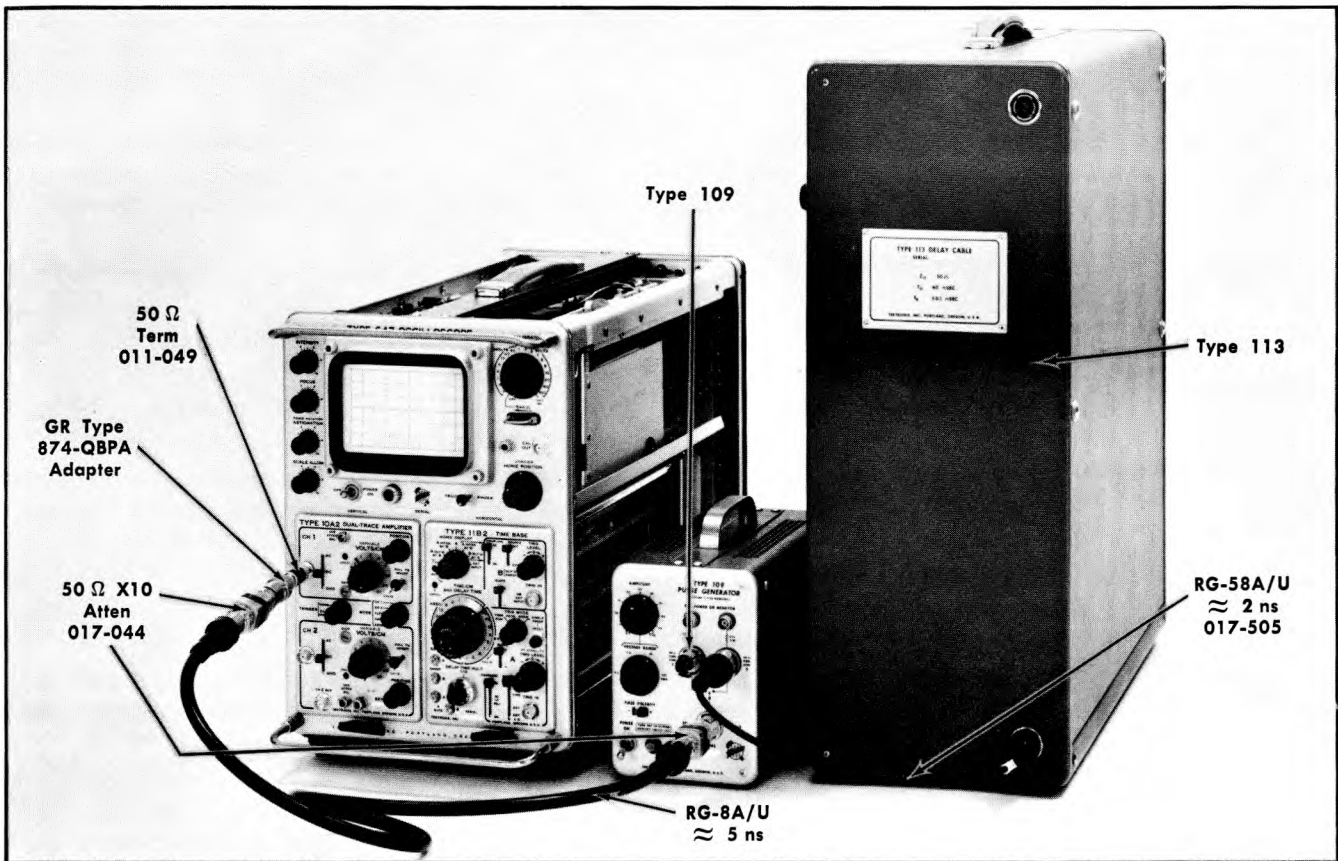

Fig. 4-4. High-frequency compensation adjustments setup.
2. Connect the pulse generator to the Type 10A2 CH 1 input as shown in Fig. 4-4.